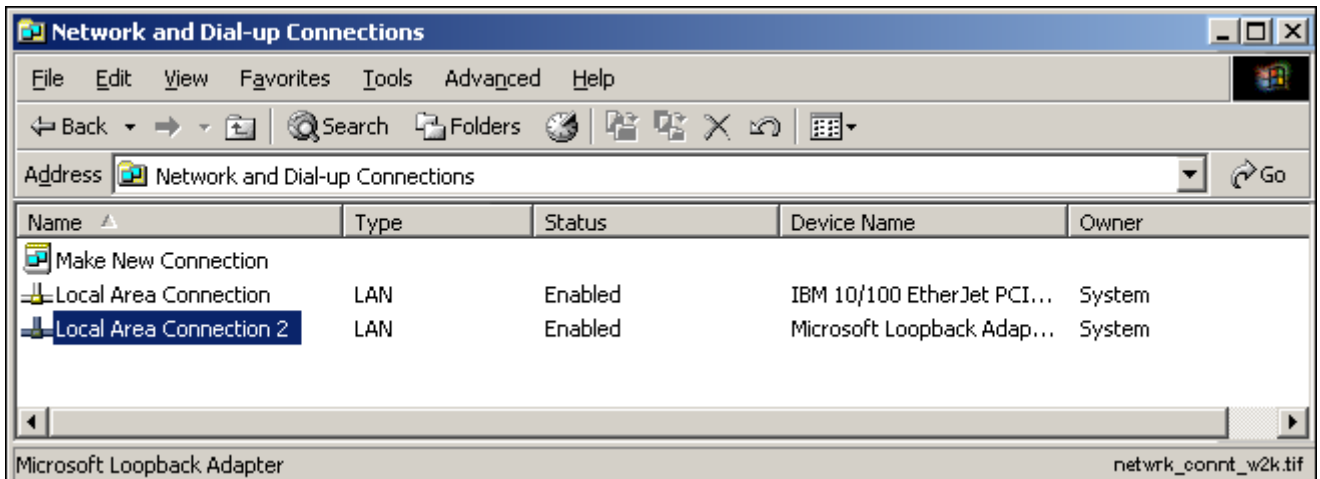

Fig. 5.9.-16 Starting to configure Loopback Adapter in Windows 2000
3. Click the right mouse button and choose Properties. Then choose Internet Protocol (TCP/IP) and click the Properties button (see Figure 5.9.-17).